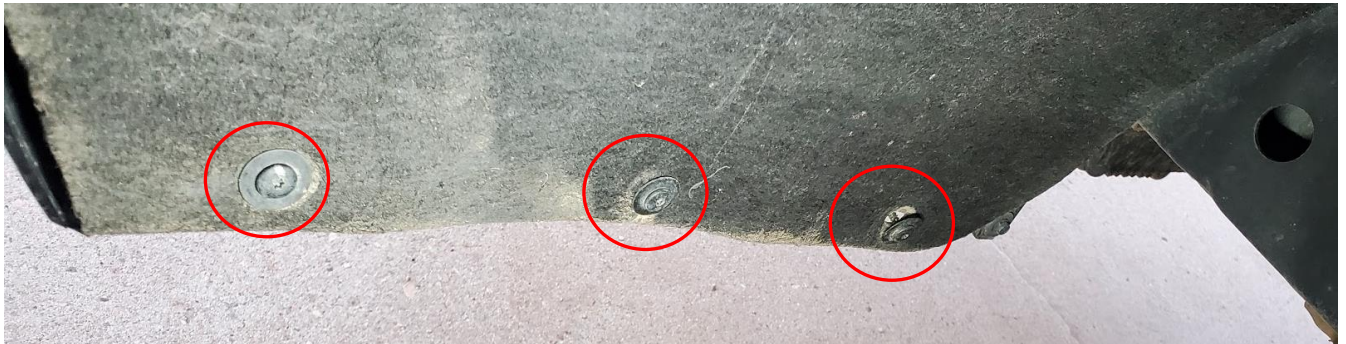

Figure 1: T15 Torx Inner Fender
2. Use the T15 screwdriver to remove the 3 T15 torx below in the inner fender well identified in Figure 1